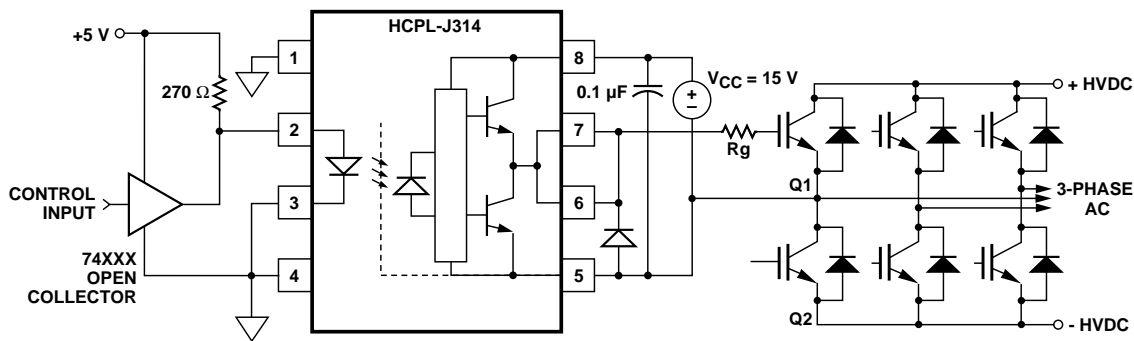
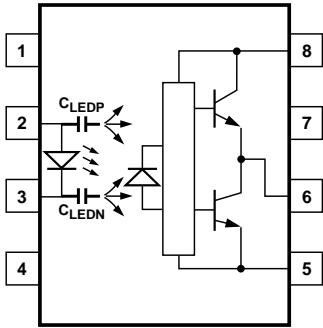
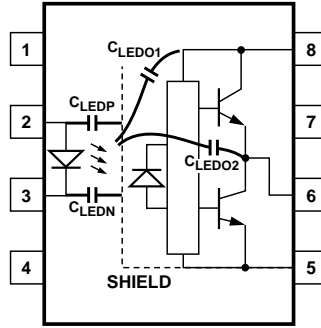

Figure 19. Recommended LED Drive and Application Circuit for HCPL-314J.
Figure 21. Optocoupler Input to Output Capacitance Model for Unshielded Optocouplers.
Figure 22. Optocoupler Input to Output Capacitance Model for Shielded Optocouplers.
eliminate the need for negative IGBT gate drive in many applications as shown in Figure 19. Care should be taken with such a PC board design to avoid routing the IGBT collector or emitter traces close to the HCPL-J314 input as this can result in unwanted coupling of transient signals into the input of HCPL-J314 and degrade performance. (If the IGBT
Step 1: Calculate R_g minimum from the I_{OL} peak specification. The IGBT and R_g in Figure 19 can be analyzed as a simple RC circuit with a voltage supplied by the HCPL-J314.
where $K_{ICC} \cdot Q_g \cdot f$ is the increase in I_{CC} due to switching and K_{ICC} is a constant of 0.001 mA/(nC*kHz). For the circuit in Figure 19 with I_F (worst case) = 10 mA, R_g = 32 Ω, Max Duty Cycle = 80%, Q_g = 100 nC, f = 20 kHz and T_{AMAX} = 85°C:
Without a detector shield, the dominant cause of optocoupler CMR failure is capacitive coupling from the input side of the optocoupler, through the package, to the detector IC as shown in Figure 21. The HCPL-J314 improves CMR performance by using a detector IC with an optically transparent Faraday shield, which diverts the capacitively coupled current away from the sensitive IC circuitry. However, this shield does not eliminate the capacitive coupling between the LED and optocoupler pins 5-8 as shown in Figure 22. This capacitive coupling causes perturbations in the LED current during common mode transients and becomes the major source of CMR failures for a shielded optocoupler. The main design objective of a high CMR LED drive circuit becomes keeping the LED in the proper state (on or off) during common mode transients. For example, the recommended application circuit (Figure 19), can achieve 10 kV/μs CMR while minimizing component complexity.
supplied by the LED, and it is not recommended for applications requiring ultra high CMR₁ performance. The alternative drive circuit which like the recommended application circuit (Figure 19), does achieve ultra high CMR performance by shunting the LED in the off state.